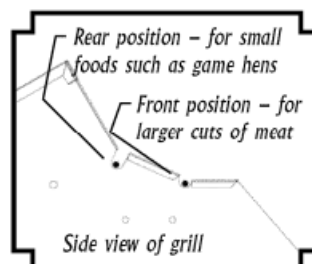

**Figure 16-1** - Rotis motor power jack located on grill
- The rotisserie motor runs on 12-volt DC power that is supplied by the grill. To power the motor, plug the “L” shaped jack of the power cord into the motor, and plug the other end into the jack provided on the left side of the grill (see figure 16-1).